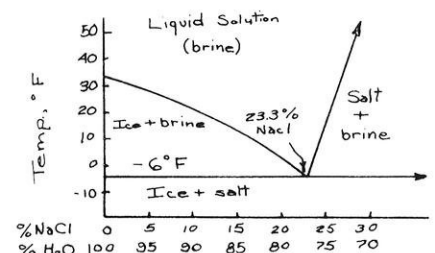
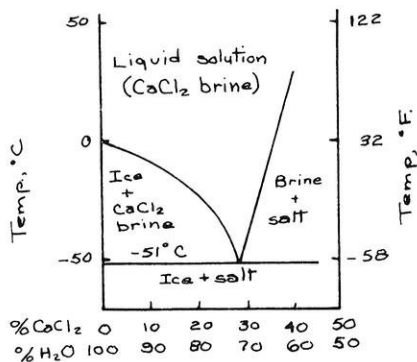

Figure 2.—Solubility of NaCl salt in brine and solubility of ice in brine.
Figure 3.—Solubility of CaCl₂ and ice in CaCl₂ brine.
in Figure 2. Here, the extremes of the abscissa indicate 100 per cent H_2O and 30 per cent NaCl. It should be noted from the figure that
- (1) the solubility of NaCl in a brine solution decreases with decreasing temperature;
- (2) the solubility of H_2O in a brine solution also decreases with decreasing temperature; and
- (3) intermediate compositions have melting temperatures lower than those of either pure ice ($32^\circ F$) or pure salt ($1473^\circ F$).
The ideas expressed in (1) and (3) above are well-known facts. The concept in (2), the less well-known limited solubility of ice in the aqueous liquid, can be verified by a simple experiment. A salt-and-water solution, that is, sea water with 1.5 per cent NaCl, can be cooled to less than $32^\circ F$, and according to Figure 2, it will still
Another example of engineering importance is a mixture of H₂O and CaCl₂ (Figure 3). Calcium Chloride rather than NaCl is used to remove ice from highways in very cold climates. The reason is
apparent from a comparison between Figures 2 and 3. An aqueous solution of calcium chloride remains liquid at temperatures as low as -60°F, while a similar solution of NaCl will freeze at -6°F. The lowest temperature at which a solution will remain completely liquid is called the *eutectic temperature*, and the solution which possesses this lowest freezing point is called the *eutectic composition*. The eutectic composition for the H₂O-NaCl system of Figure 2 is 76.7 per cent H₂O and 23.3 per cent NaCl. From Figure 3, the eutectic composition for H₂O-CaCl₂ is 71 per cent H₂O and 29 per cent CaCl₂. The intersection of the solubility curves in such diagrams marks the eutectic com-